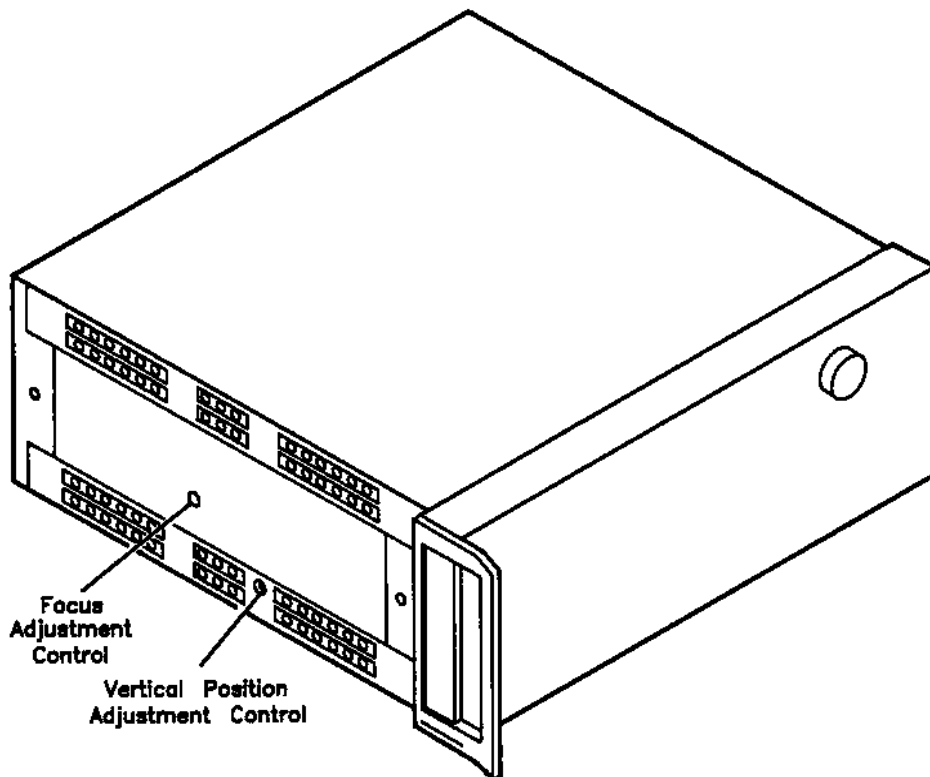

Figure 5-9. Vertical Position Adjustment Control
2. Remove the analyzer's left side cover next to the display. Remove the screw from the side cover and slide the cover off. Figure 5-9 shows the location of the adjustment control.
5. Insert the flat-head screwdriver into the focus adjustment control (Figure 5-9). Adjust the focus while viewing test pattern number 10.